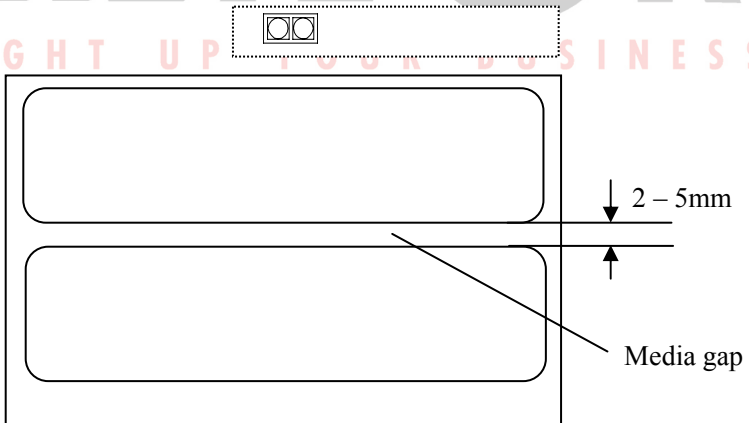
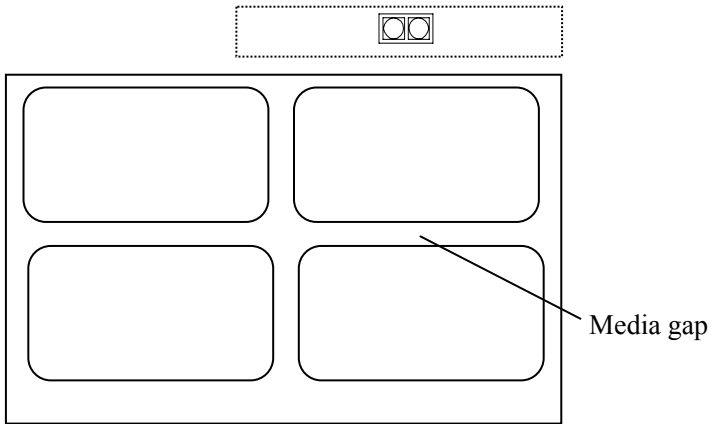

Figure 7-3
Figure 7-4
4. Remove the media sensor cover and slide the media sensor to the appropriate position (refer to Figure 7-3, Figure 7-4 and Figure 7-5).